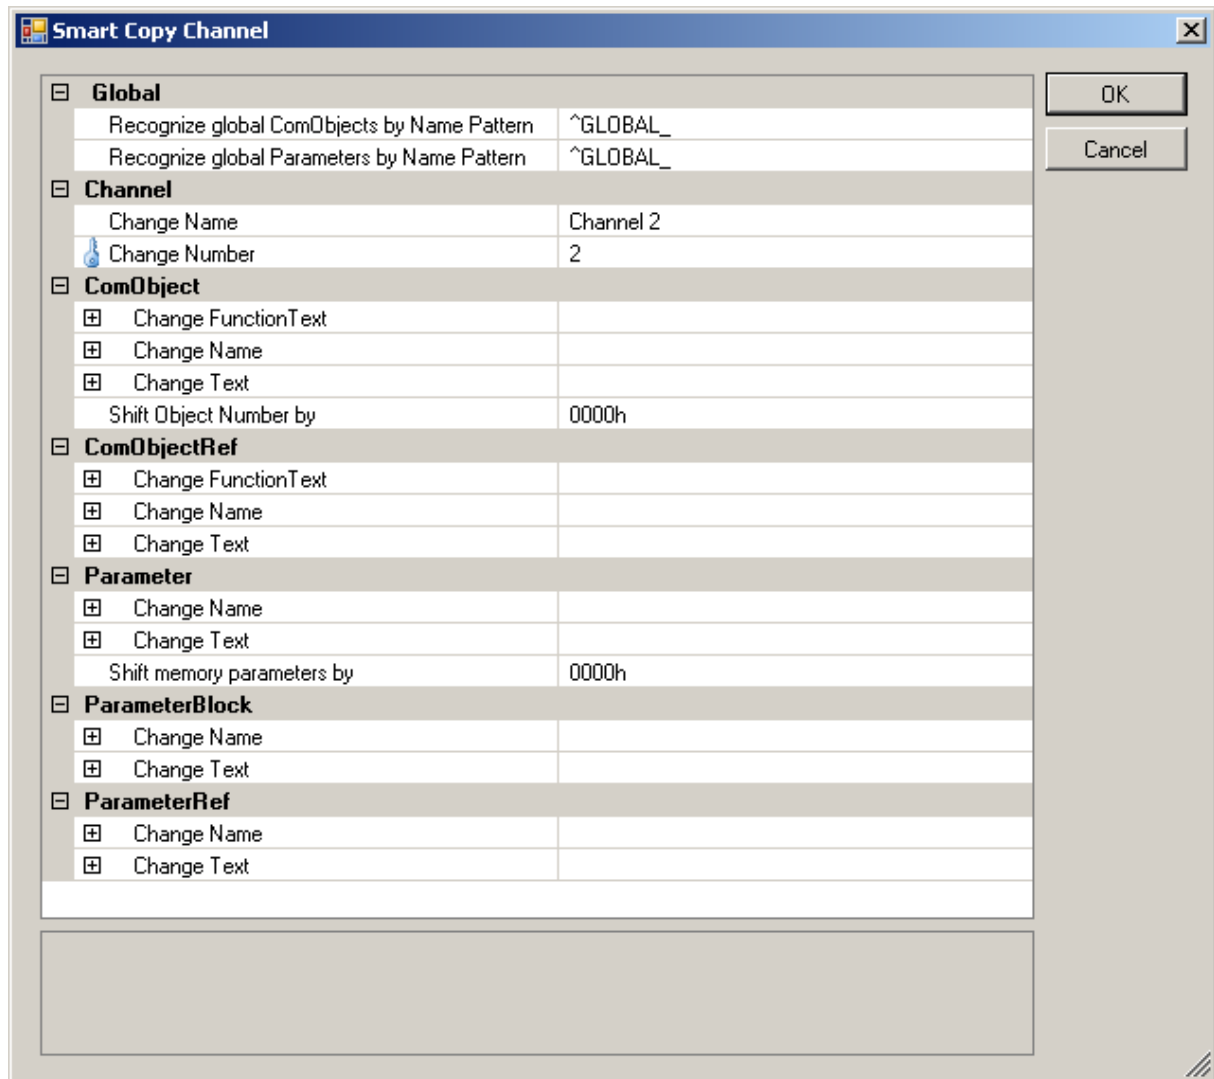

Figure 1 – Smart copy dialog
- Please refer to the screenshot in Figure 1.